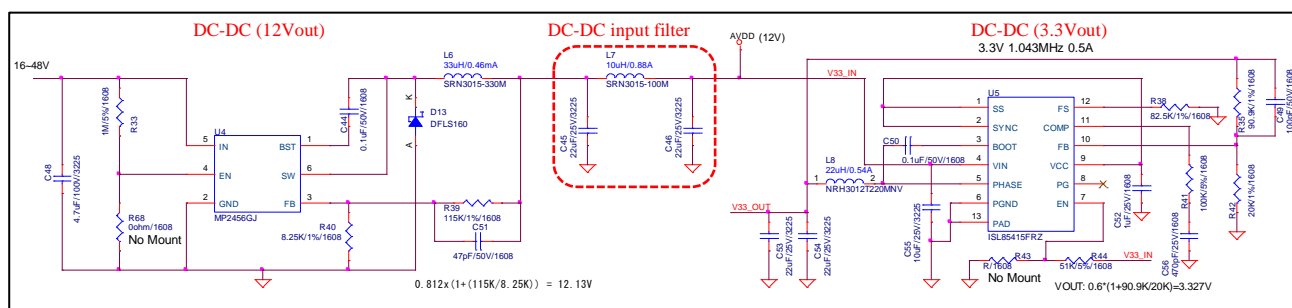

Figure 4-2 Example of DC-DC power supply circuits
- Figure 4-2 shows an example of DC-DC power supply circuits that generate 12V and 3.3V from DC supply voltage of 16V to 48V using MP2456GJ and ISL85415.